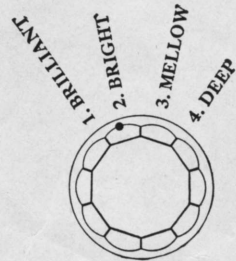

Fig. 2
There are four settings of the tone control which are felt as notches when the knob is turned. These have been named: (1) brilliant, (2) bright, (3) mellow and (4) deep. The approximate position of the dot on the tone control knob for each setting is shown in Figure 2.